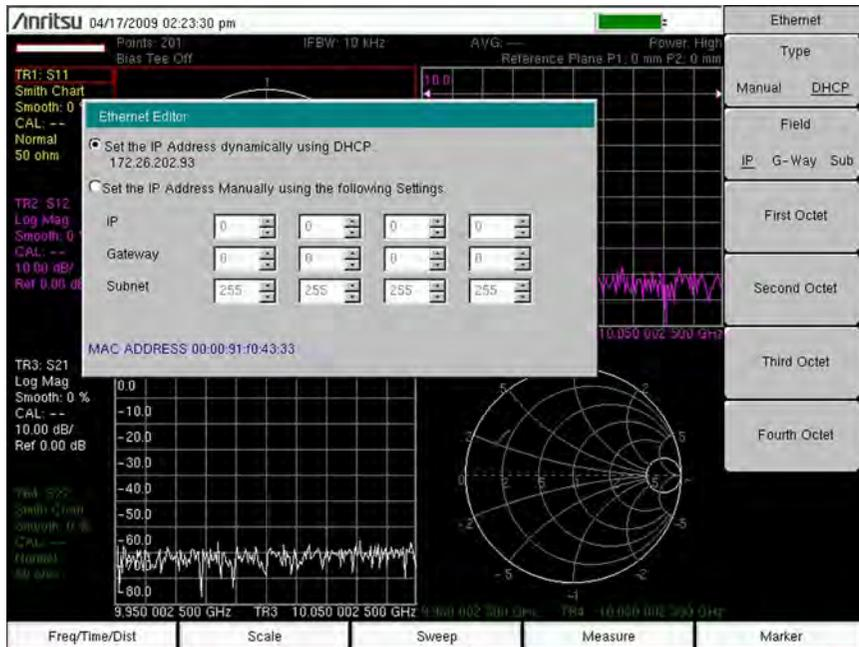

Figure 2-14. IP Address Assigned Using DHCP
To display the IP address with the instrument on, press the **Shift** key, then the **System** (8) key, then the System Options soft key and the Ethernet Config soft key. The IP address is displayed as shown in Figure 2-14. For more information about DHCP, refer to Appendix G, “More About DHCP”.